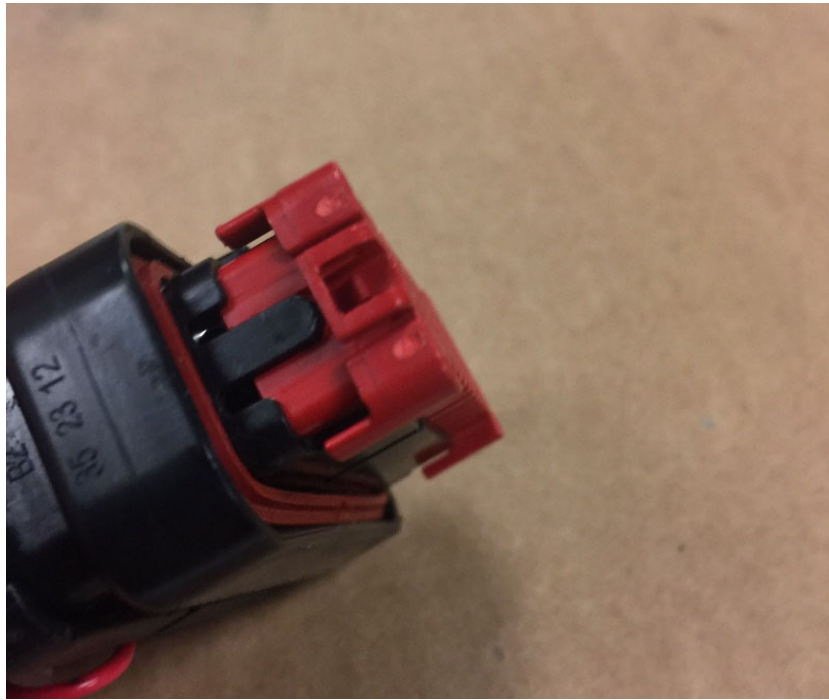

Fig. 33 – Capture Piece
8. Once completed the plug should look like the following. (Fig. 33) Note the red plastic pin capture piece is not attached to the black plastic tab.